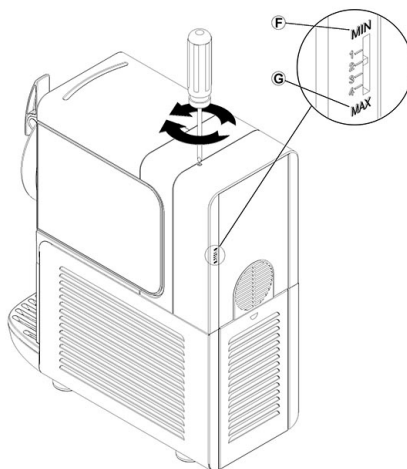

figure 2
- 1 **Density adjustment:** the optimal density of crushed ice is factory set. To adjust this density, use a screwdriver to turn the adjustment screw in each of the back walls of the dispenser (see figure 2):